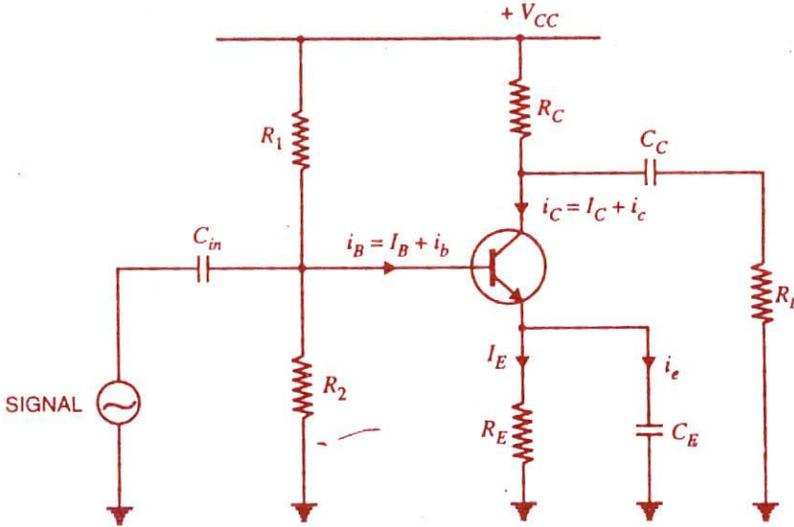
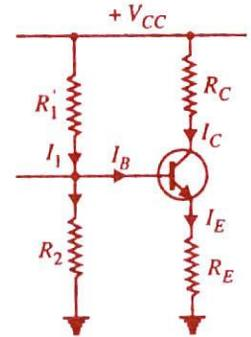
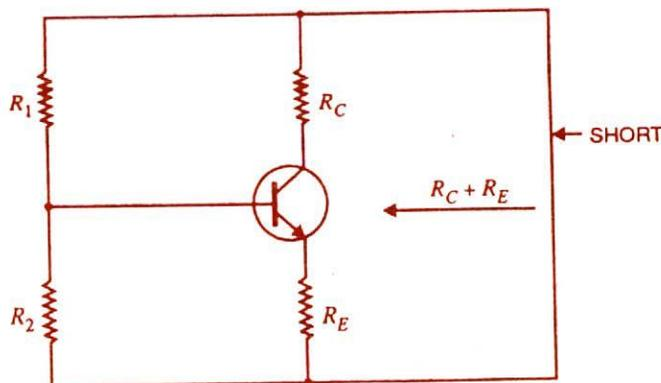

Fig. 12.7
Fig. 12.8
Fig. 12.10
consider all the a.c. sources at the same time and work out the a.c. currents and voltages. By adding the d.c. and a.c. currents and voltages, we get the total currents and voltages in the circuit. For example, consider the amplifier circuit shown in Fig. 12.7. This circuit can be easily analysed by splitting it into *d.c. equivalent circuit* and *a.c. equivalent circuit*.
Applying these two steps to the circuit shown in Fig. 12.7, we get the d.c. equivalent circuit shown in Fig. 12.8. We can easily calculate the d.c. currents and voltages from this circuit.
Applying these two steps to the circuit shown in Fig. 12.7, we get the a.c. \*equivalent circuit
**Example 12.2.** For the transistor amplifier circuit shown in Fig. 12.7, determine :
**Solution.** Refer back to the transistor amplifier circuit shown in Fig. 12.7.
(i) The d.c. load for the transistor is Thevenin's equivalent resistance as seen by the collector and emitter terminals. Thus referring to the d.c. equivalent circuit shown in Fig. 12.8, Thevenin's equivalent resistance can be found by shorting the voltage source (i.e.  $V_{CC}$ ) as shown in Fig. 12.10.
(ii) Referring to d.c. equivalent circuit of Fig. 12.8,